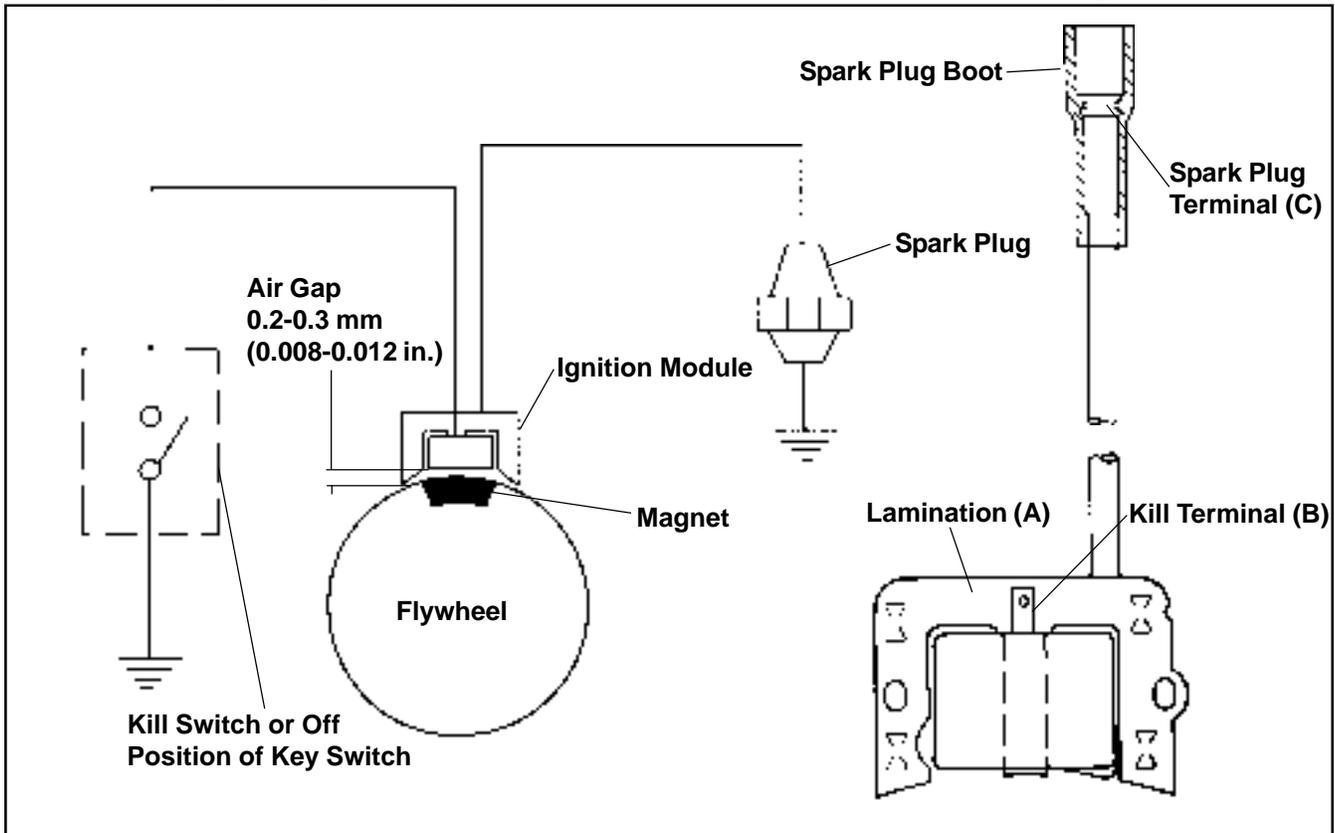

Figure 8-2. Electronic Magneto Ignition System, CV11-15, CV460-465, CV490-495 Engines.
4. Measure the resistance of module secondary using an ohmmeter (see Figures 8-2 and 8-4):  Zero ohmmeter before testing. Connect one ohmmeter lead to laminations (A). Connect the other lead to the spark plug terminal (C) of high-terminal lead. With the ohmmeter leads connected in this manner, the resistance of secondary should be 7,900 to 18,400 ohms .  NOTE: This test cannot be performed unless module has been fired at least once.	4. If the resistance is low or 0 ohms , the module secondary is shorted. Replace the module*.  If the resistance is high or infinity ohms , the module secondary is open. Replace the module*.  If the resistance is within the specified range, the module secondary is OK.  *Refer to the Disassembly and Reassembly Sections for complete ignition module removal and installation procedures.